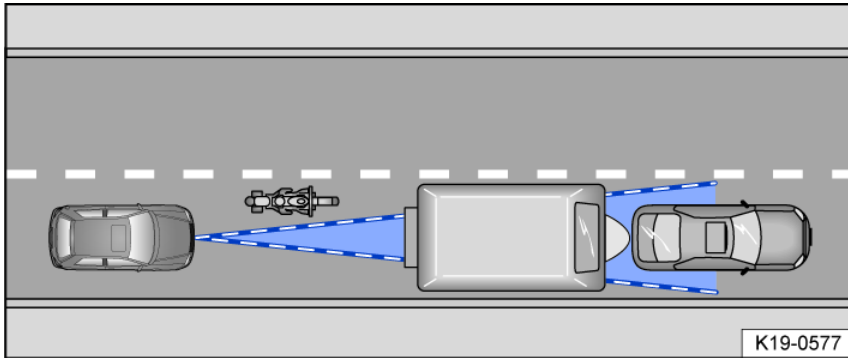

Fig. 126 Narrow vehicle.
- If there are vehicles that are driving close to your vehicle but outside the sensor range, such as motorcycles fig. 126.